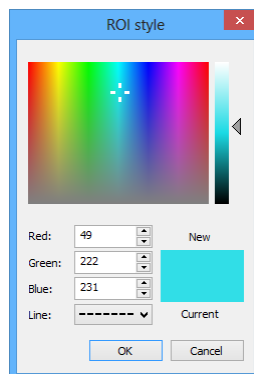

Figure 360 – ROIs style dialog
3. Select the desired color and line style in the dialog (see Figure 360).